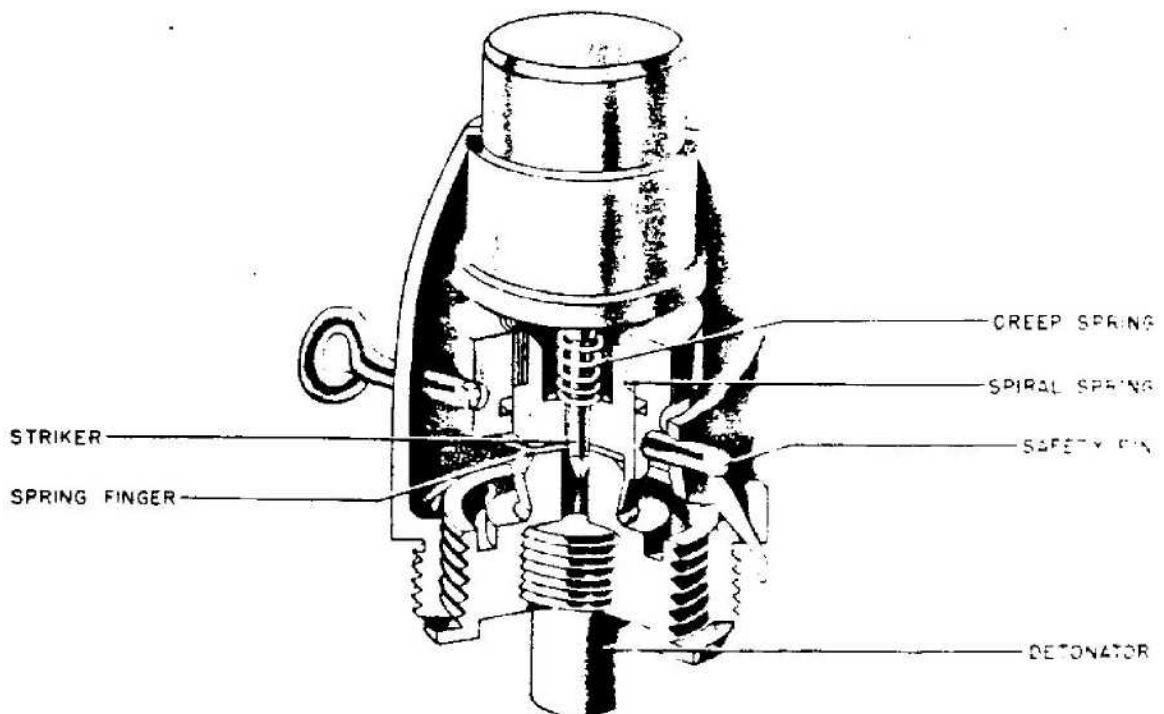

Figure 562—A. Z. 5095
**DESCRIPTION:** The fuze A. Z. 5075 is used in the nose of the 3.7 Pak. Stielgranate 41 or hollow charge muzzle stick bomb and, excepting the magazine and magazine assembly, is similar to the nose fuze described for the rifle and hand, selfdestroying grenade. (See fig. 562.)